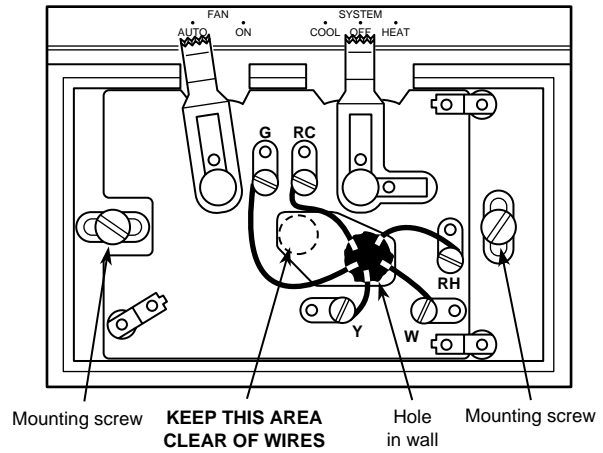

Figure 2. Thermostat subbase
5. Fasten subbase loosely to wall, as shown, using two mounting screws. Place a **level** against bottom of subbase, adjust until **level**, and then tighten mounting screws to secure subbase. If holes in wall are too large and do not allow you to tighten subbase snugly, use plastic expansion plugs to secure subbase (see fig. 2).